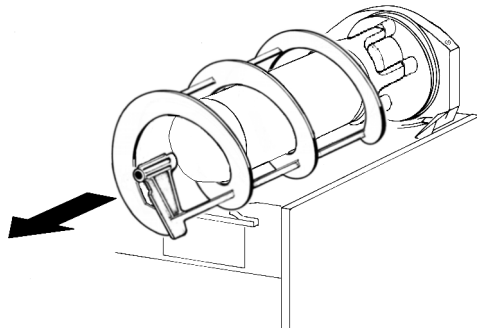
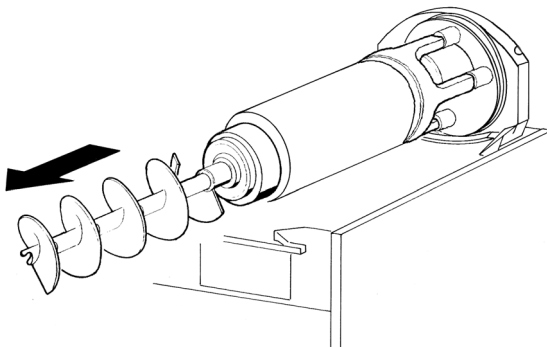

figure 9
figure 10
- 3** Slide the outer spiral out (see figure 9) and then the inside auger (see figure 10).